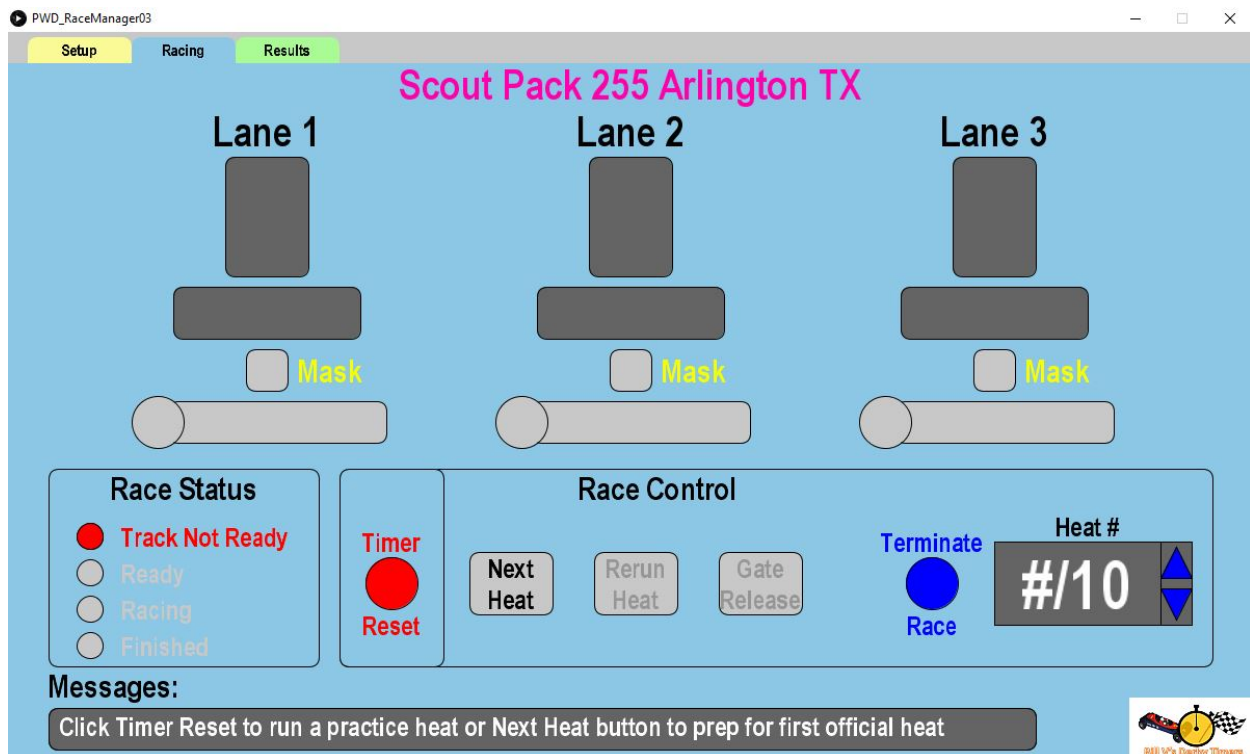

Figure 4 – Initial Timer Startup Screen
Prior to program start up the user must create a roster file containing the first name, last name, car number and a group name for each racer participating in the race (See Figure 4). Typically races are conducted one group at a time but the software does allow for more than one group (e.g. Tigers & Bears) to race together which is sometimes done if a group has a small number of members. In such cases, the ‘Group’ column is used to parse race results by group in the Group Standings report. User defined columns such as the ‘CarCheck’ column shown in the figure below may be added to the right of the four required columns. These extra columns will be ignored by the software. The file must have a header row with the header text exactly as shown in the figure below and be saved in comma-separated values (.csv) format.
Once all the race preparation steps have been completed the race event can begin. Click on the Racing tab to select the racing page. Refer to Figure 4 at the end of this section.
Control of the timer is performed via mouse clickable buttons on the racing page (Ref. Fig. 4). They perform the functions as listed in the table below. Additional detail is provided in Section 3.3 of this document.
2. Select the Racing page (Ref. Fig. 4).